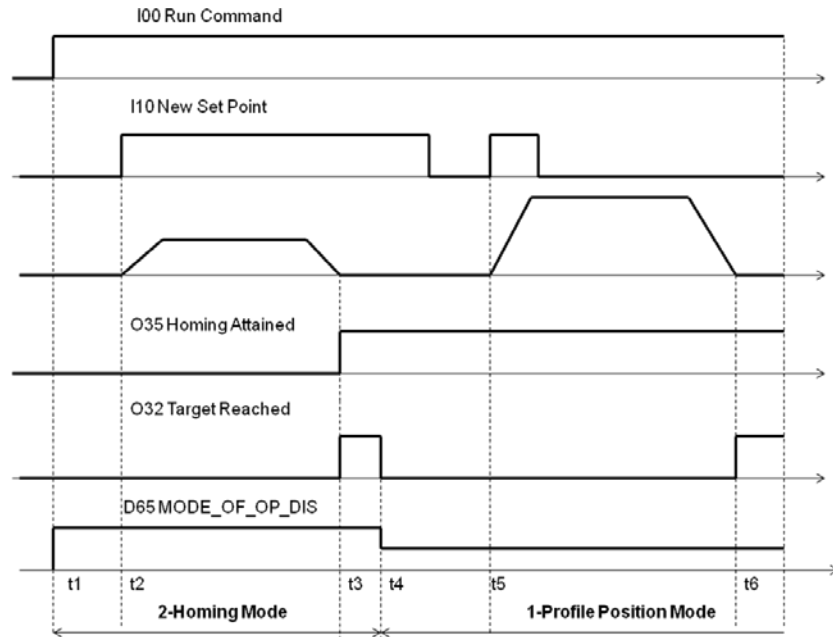

Figure 25: Automatic switch Homing-Positioning
**Figure 25** shows the timing of Logical Input, Output and variables of automatic function.